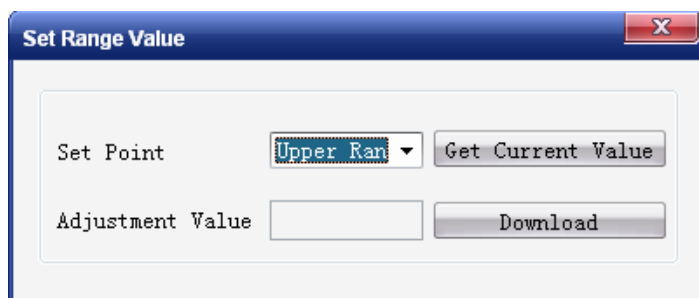

Figure 5-6 Calibration of rangeupper limit
- ② Add practical pressure of the up limit of the range on the Transmitter, select the calibration point of “up-limit of range”, Add standard pressure of the range upper limit to transmitter, when the pressure is stable, select the calibration point “upper range”, as Figure 5-6 shows. And then click the button “get current value”, the calibration data is displayed in “adjustment value”. Complete the calibration by clicking the button “download”. Now the practical pressure value is the pressure value of range upper limit, and the current output is 4mA.